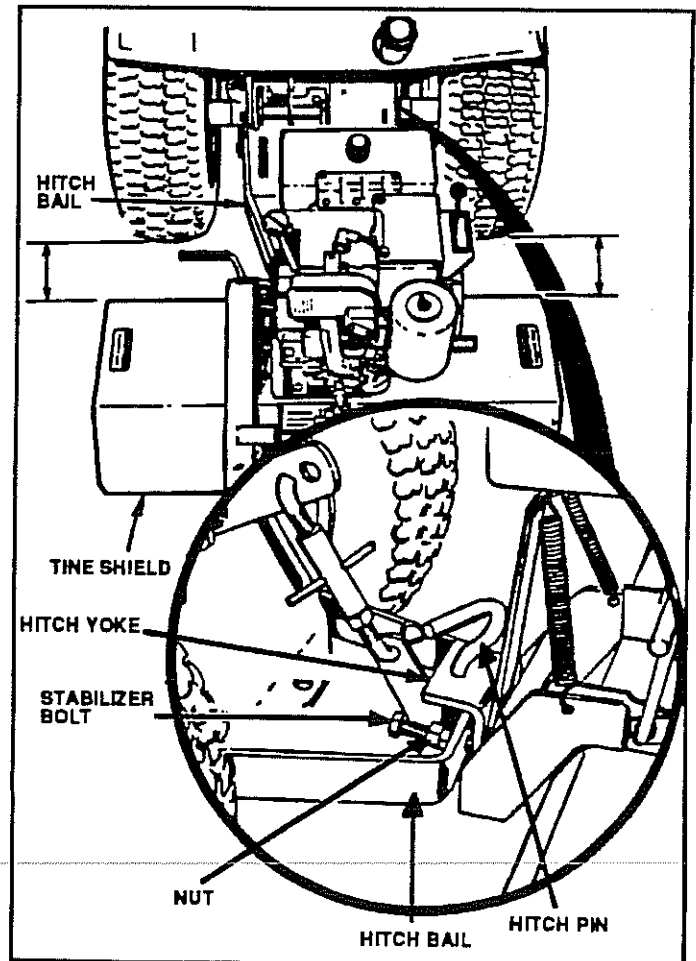

FIG. 2
- Adjust stabilizer bolts so that ends are about flush with rear of hitch ball (Fig. 2 - Inset). Leave nuts loose.
- Lower hitch assembly and slide hitch yoke of tiller (Fig. 2 - Inset) over hitch tube of sleeve hitch so that the hitch pin holes line up.
- Insert hitch pin until it extends from bottom of hitch yoke (Fig. 2 - Inset). Insert retainer spring into hitch pin.
- Tighten both stabilizer bolts against the hitch yoke until there is no looseness at the hitch point. (The frame assembly does not swing sideways relative to the hitch ball (Fig. 2). Be sure the frame assembly is perpendicular (square) to the centerline (direction of travel) of the tractor. This can be determined by measuring the distance between the edge of tine shield (Fig. 2) and the back of the rear tires. This distance should be the same on the R.H. and L.H. sides within 1/2 inch. Securely tighten the nuts on the stabilizer bolts.
NOTE: The stabilizer bolts should be loosened before removing the tiller from the tractor. This will make it easier to remove the hitch pin and to line up hitch pin holes when installing another attachment. If tractor is to be used without a rear attachment, the stabilizer bolt should be secured by tightening the nuts (Fig. 2-Inset).